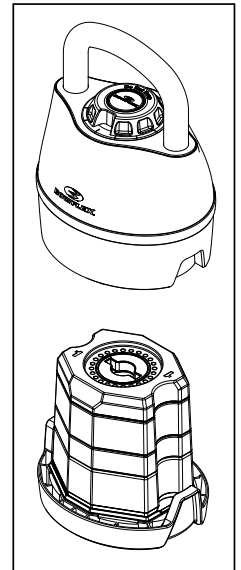

Figure 2
5. With the adjustment knob set to 8 (3.5), pull the handle straight up from the kettlebell. This will remove only the hull from the base, leaving all of the weight plates on the base (Fig. 2). The handle without plates represents the starting weight of 8 lbs (3.5 kg).